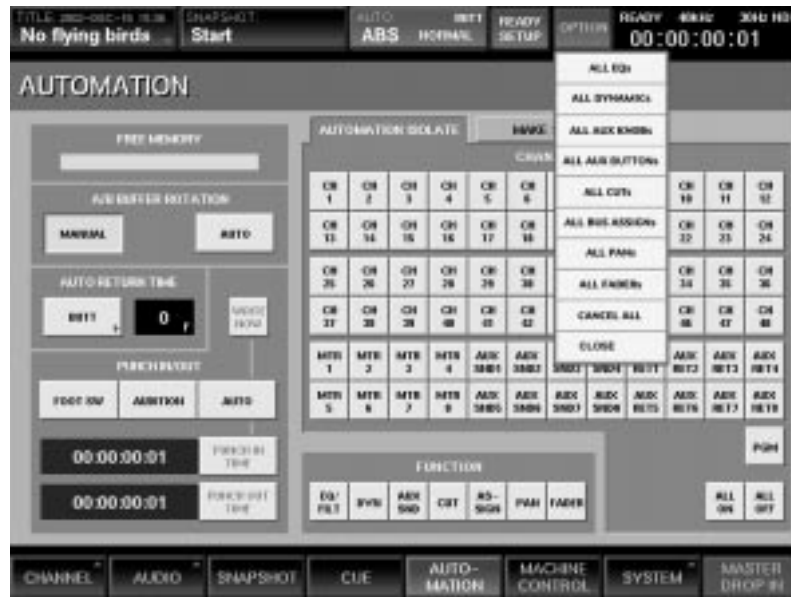

Figure 2
- Another important function allows all faders, pans, bus assignments, cuts, Aux on-off switches, Aux send levels, dynamics processing, or equalization for all channels to be globally armed. To do so, touch the READY SETUP button at the top of the touchscreen so that it turns orange and then touch the OPTION button to its immediate right. A drop-down menu will appear, allowing you to select any of the above; once a selection is made, all WRITE buttons for all channels will begin blinking. (See Figure 2)